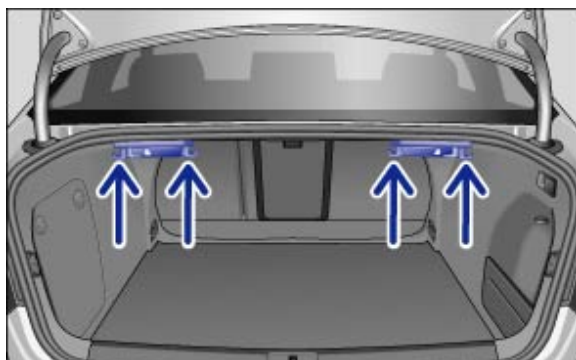

Fig. 107 In the luggage compartment: bag hook (arrow)
- A bag can be secured to one of the bag hooks → Fig. 107 (arrow).